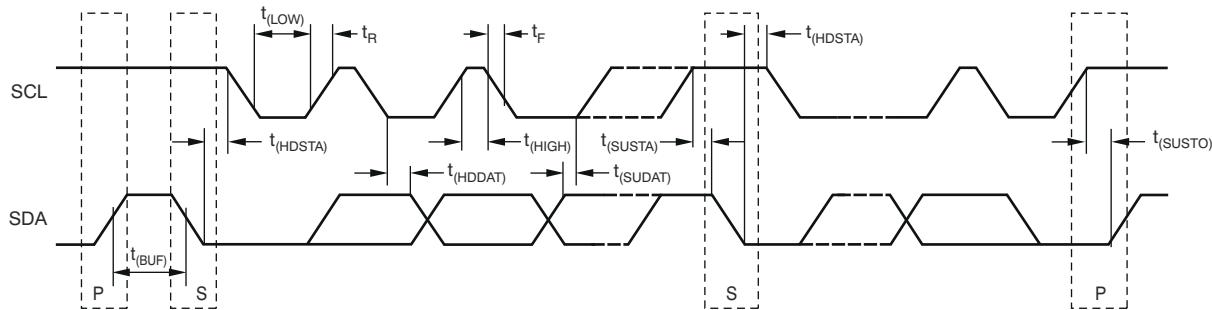

Figure 6-1. Two-Wire Timing Diagram
(1) Tested with less than $5\text{-}\Omega$ effective series resistance and 100-pF differential input capacitance.
6.6 Timing Characteristics for Figure 6-1